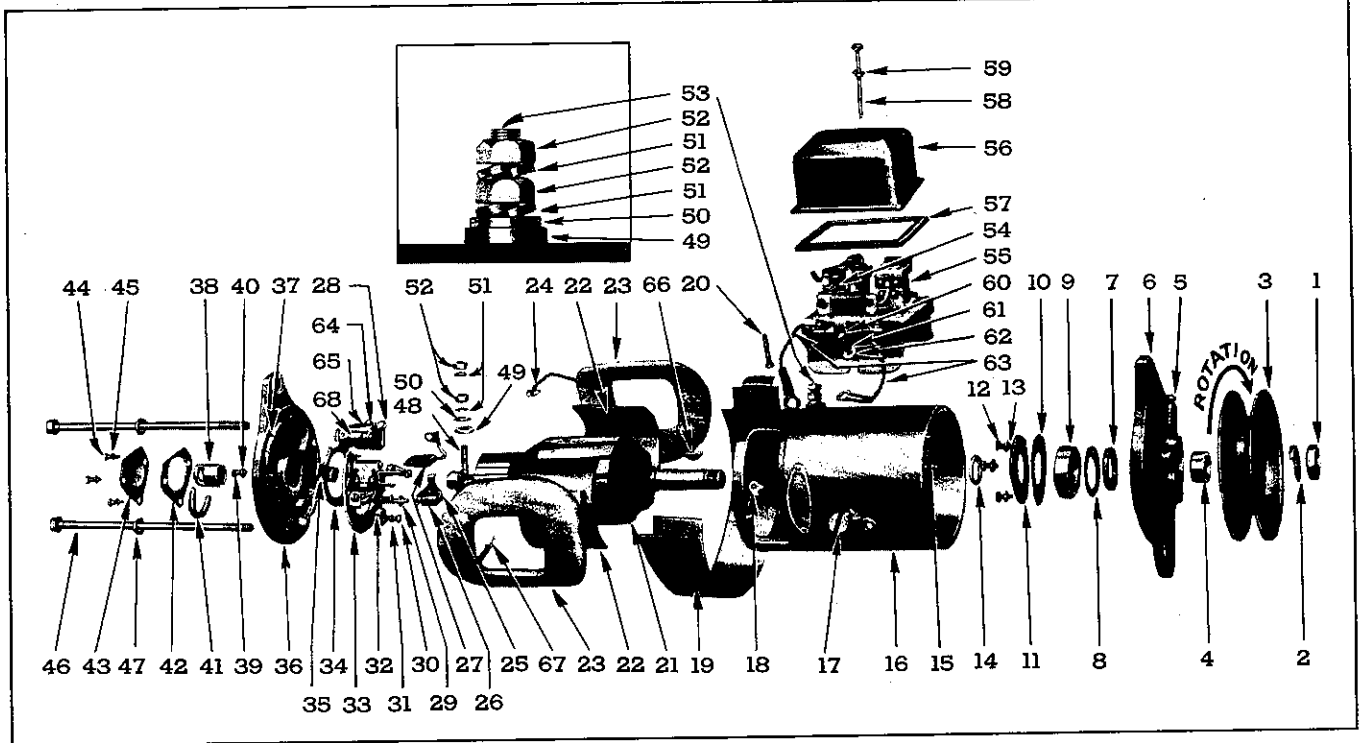

Fig. 10—Battery Charging Generator Details and Relative Location of Parts.
due to the construction of its mounting. (See Fig. 10 for details.)
Disassemble Generator—After testing has proved it necessary, the generator may be torn down for repair and rebuilding by referring to Fig. 10 and proceeding as follows:
Assemble Generator—Having made all necessary repairs and using new parts where required, refer to Fig. 10 and assemble the generator as follows:
Locate main brush holder assembly (33) on end frame and fasten with three screws and lock washers (30) and (31). Be sure flat tension spring (32) is in position under center screw and bearing against movable brush mounting ring as shown in Fig. 10.
- (f) Two carbon brushes (27) and one carbon brush (28) may now be inserted in the holders. Note that the movable brush differs from the main brush and may be distinguished by a notch on the top surface into which the tension arm fits. Brushes must be put in holders so that the bottom surface properly fits the commutator as it rotates. To assure this contact, pigtail leads must be on side of brush away from end frame. Connect brush leads to holders temporarily with retaining screws and lockwashers (64) and (65) and tip brushes in box holders so that commutator may easily be inserted between them. To tip brushes, raise brush out of box until tension arm rests on side of brush rather than the top.
4. Support armature—commutator down—in soft jaws of vise with shaft end resting on vise frame. Slip narrow spacer (14) over shaft followed by the drive end frame assembly. Set large spacer (4) in position over shaft and against inner bearing race and tap end frame into position against shoulder on armature shaft.